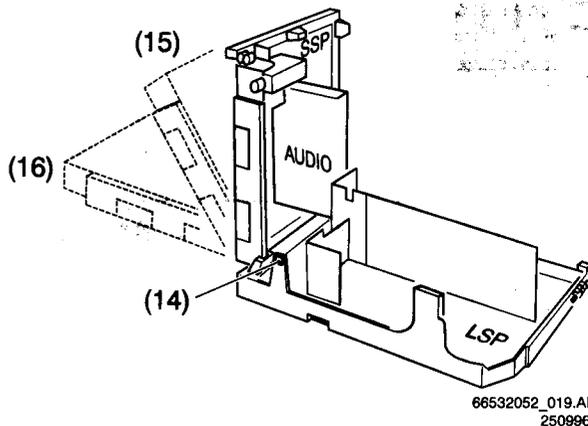

Figure 4.7
#### SSP copper and component side, module servicing (Figure 4.7)
2. Release the click construction (14 - Fig. 4.7) between the SSP and LSP, lift the SSP a little and turn it to an angle of 180° (16 - see Fig. 4.7) from the LSP.